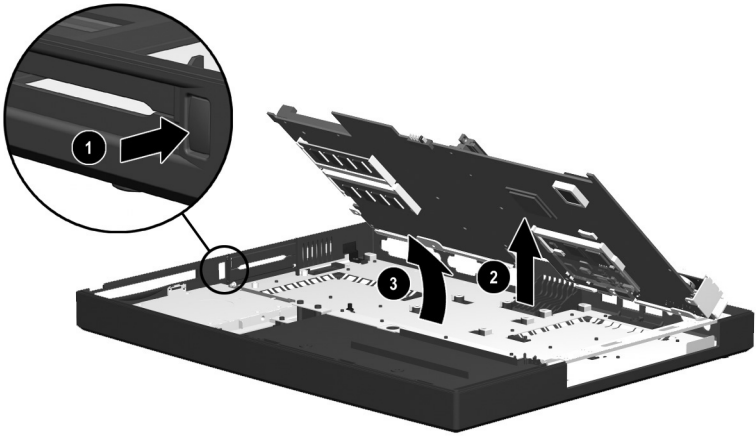

Figure 5-26: Removing the System Board
9. Make sure the PC Card eject button ❶ is fully depressed (Figure 5-26).
10. Lift up the front edge of the system board until the board is at a 45-degree angle ❷.
11. Pull the system board away from the base enclosure at a 45-degree angle ❸.